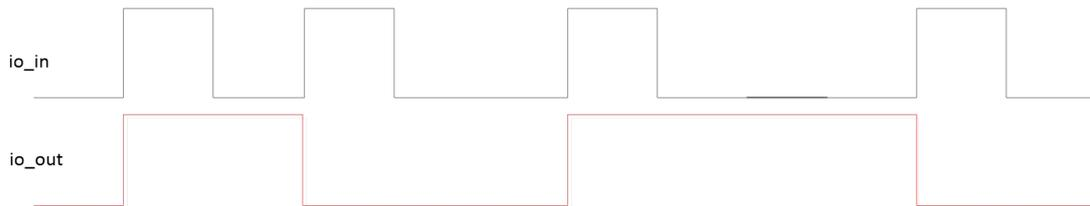

Figure 21 Non-uniform periodic frequency division
- When io_in is a non-uniform period distribution, io_out is a non-equal duty waveform after even frequency division, as shown in Fig. 21